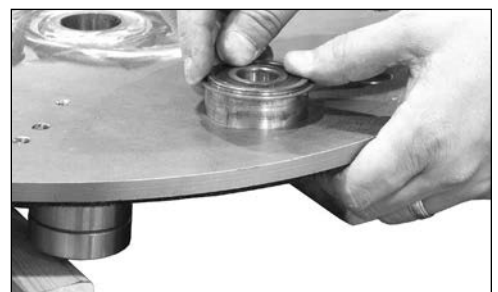

FIG. 7.2
7. Turn plate over on blocks (Figure 7.2).
8. With the retainer ring turned upwards, replace the bearing (Figure 7.2), keeping the bearing as straight as possible (Figure 7.3). **Note:** Bearing can be difficult to insert.